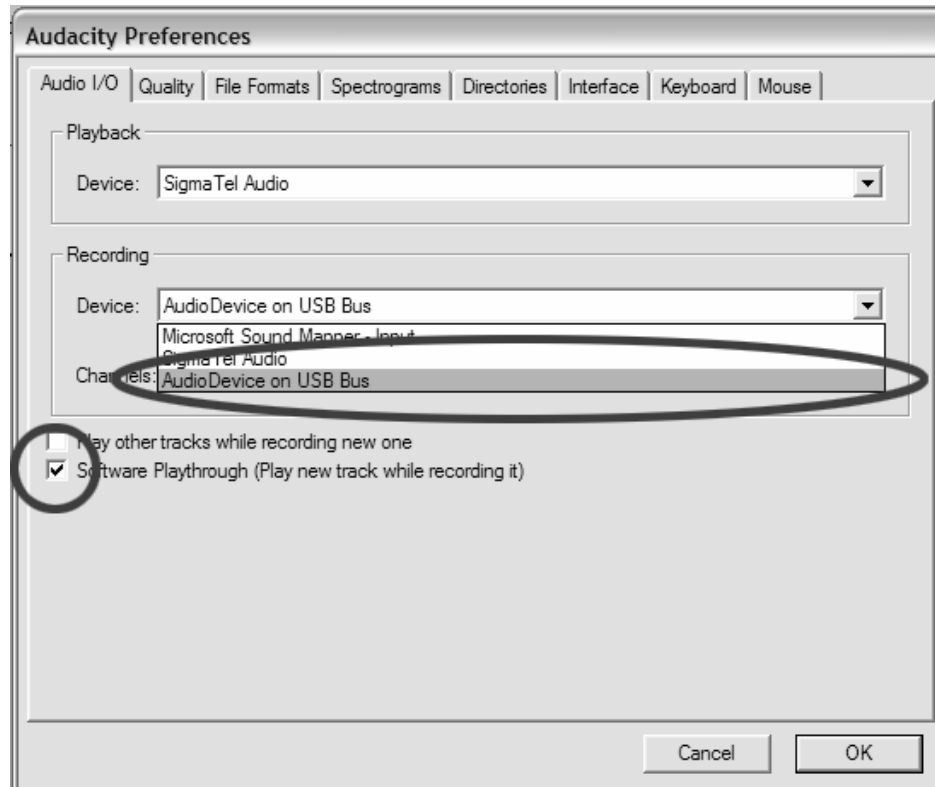

Figure 1: Select USB Audio Device from Preferences
- No Audio? - go back to the preference menu (Figure 1) and make sure you have "Software Play through" selected and the speaker volume up on your computer.